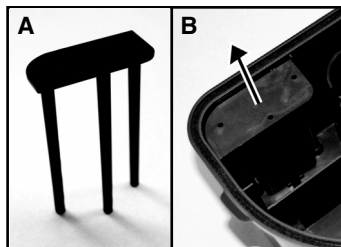

FIGURE 1
1. Remove Sensor Cage (FIGURE 1-A) from Water Filtration Chamber by pulling firmly upwards on Cage (FIGURE 1-B).